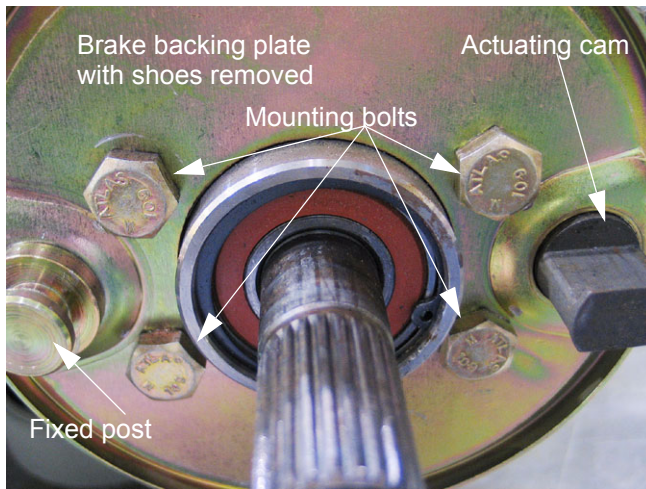

Figure 9.5
- 9.5. After the wheels and brake drums are removed from the axle shafts, remove the brake shoes as described in the "Brakes" section of this manual. See Figure 9.5.